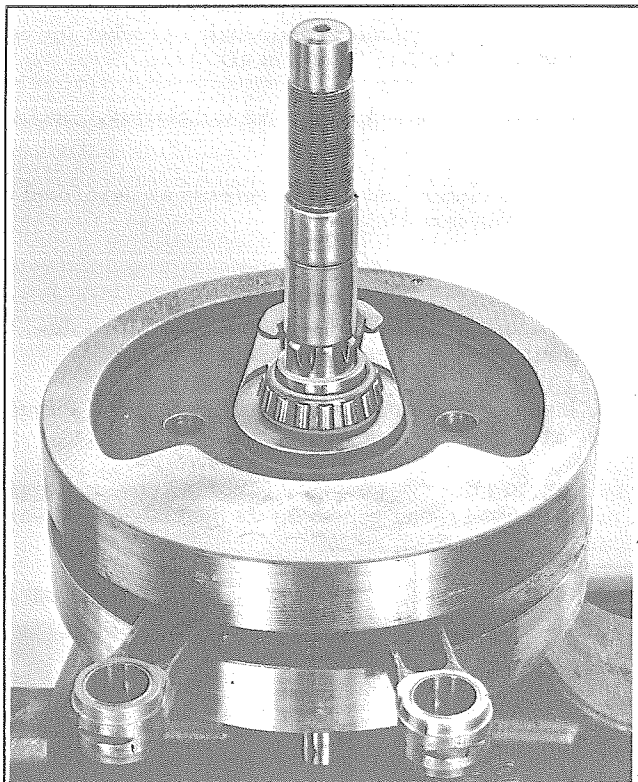

Figure 3E-31. Installing Bearing (Right Half) and Spacer
2. See Fig. 3E-31. Position flywheel assembly in vise and grip pinion shaft between copper jaws. Install screw (1, Fig. 3E-30) and with a 1 in. I.D. x 3-1/4 in. long steel tube under driver (2, Fig. 3E-30), install Timken bearing half (7, Fig. 3E-20) on sprocket shaft. Be sure bearing bottoms on shaft shoulder.
After pressing bearing tight against the flywheel, install bearing spacer (12, Fig. 3E-20) on sprocket shaft.